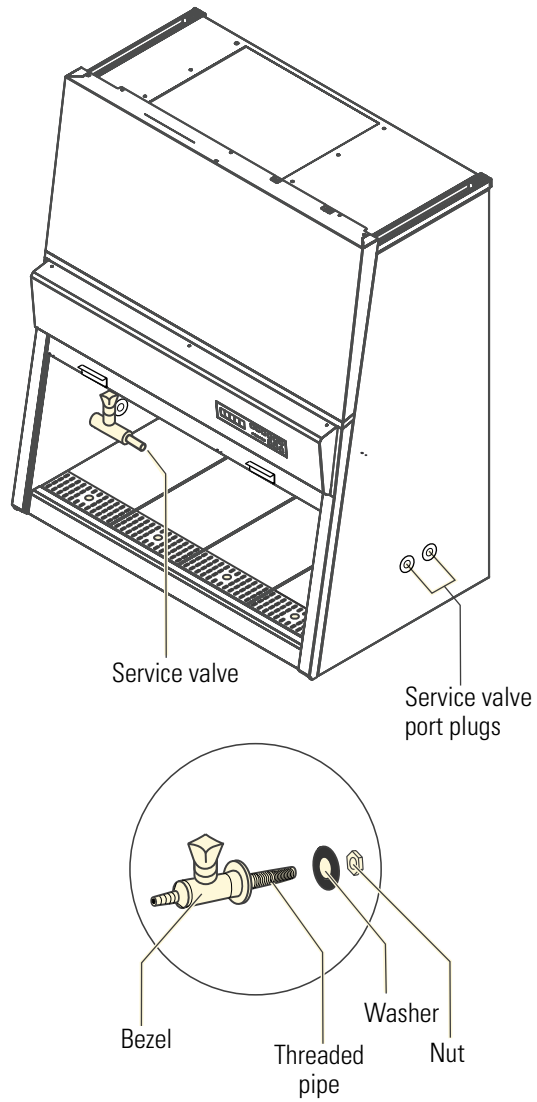

Figure 2-4. Valve Assembly and Installation
4. Referring to Figure 2-4 on the following page, slide the gasket and the bezel onto the threaded pipe of the service valve. Apply a thin bead of silicon to the inner flange of the service valve.